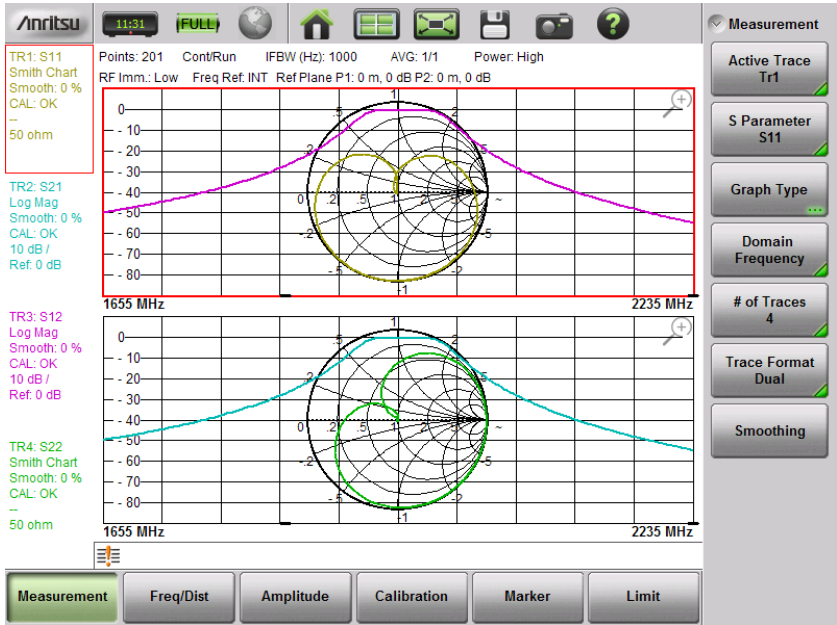

Figure 6-5. Format = Dual, Traces = 4
3. Next, set Trace Format = Dual. Note how the 4 traces are assigned to the split display. TR1 (Trace 1) and TR3 are assigned to the top graph. TR2 and TR4 are assigned to the bottom graph. Refer to Figure 6-5.